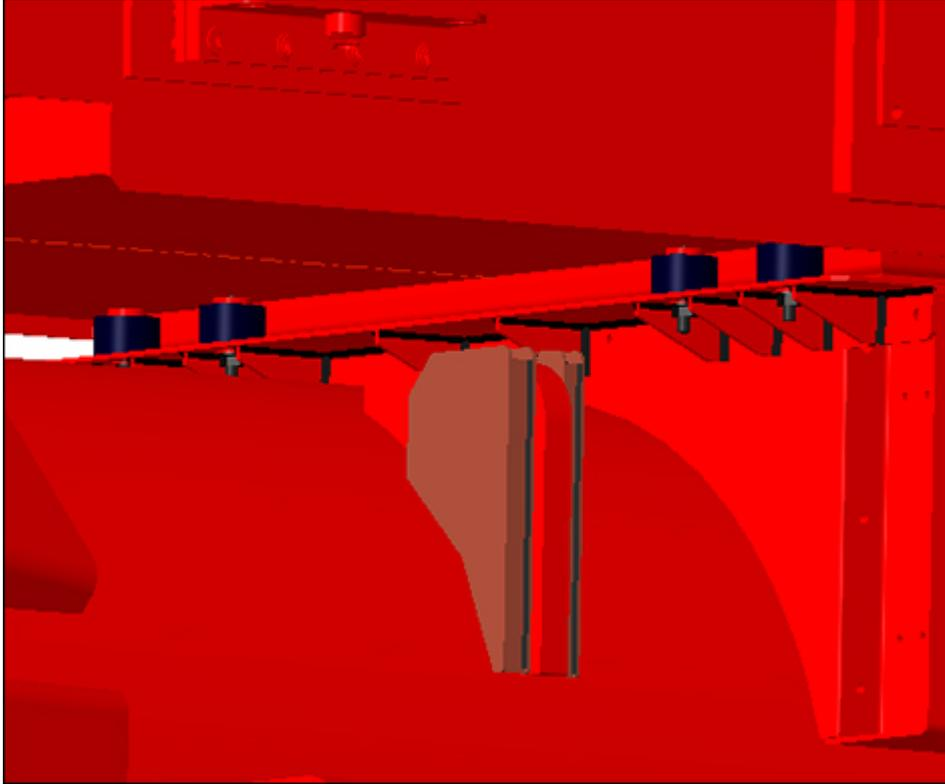

FIGURE 12. WATER COOLER LOWERED IN TO POSITION
1. Using the crane/hoist, position the water cooler over the alternator. Align the anti-vibration mount studs with the holes on the water cooler support plate on the alternator (refer to Figure 12 on page 18).